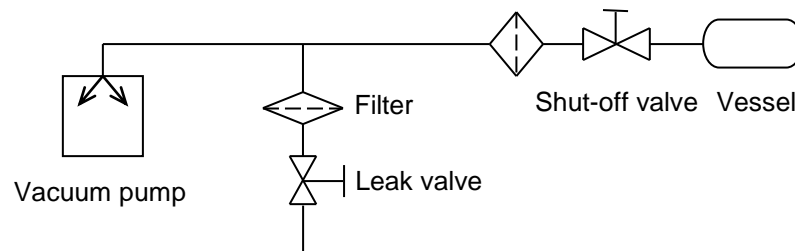

Fig.3.2 Example of Piping Used When Evacuating a Vessel
- 5) When evacuating a vessel, ensure that a shut-off valve is placed between the pump inlet pipe and the vessel (see Fig.3.2). Also, please use a leak valve to prevent start-up failure due to vacuum start.